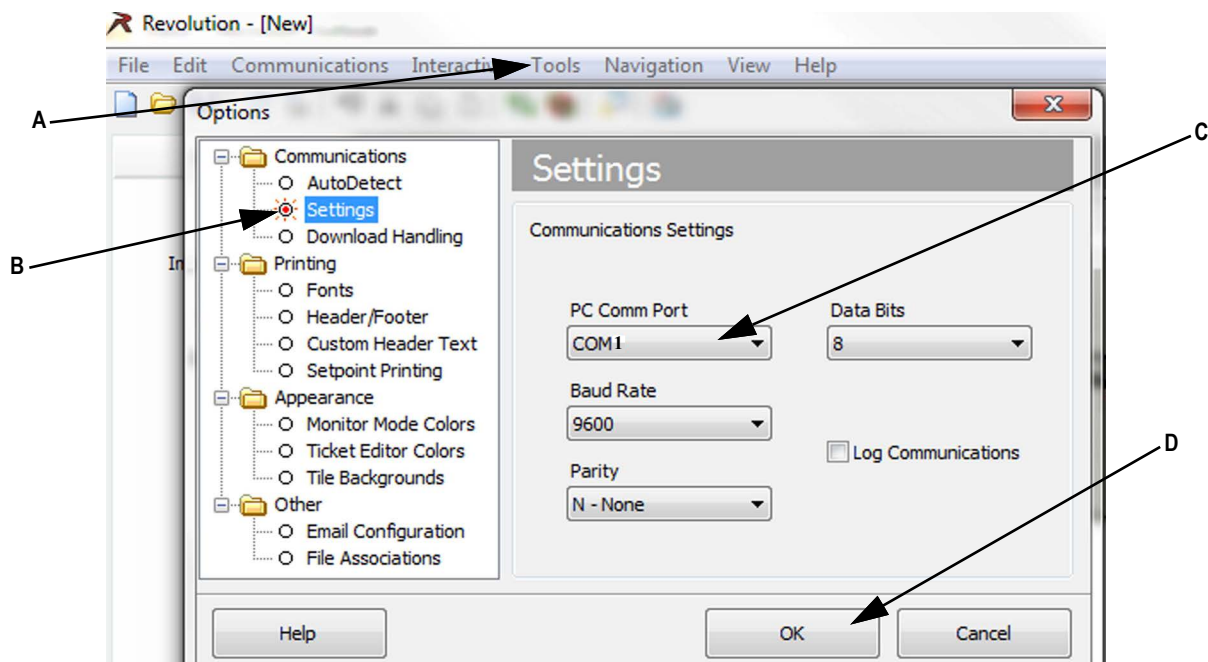

Figure 4-4. Options Screen to Select Comm Port for USB
- Go to Tools/Options (Figure 4-4 A) and select **Settings** (B), then choose the **PC Comm Port** (C).
- Click **OK** (Figure 4-4 D).